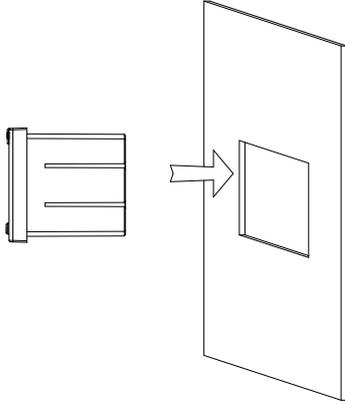

Figure 5
- 3) Install the meter into the installation hole from the front, as shown in Figure 5;